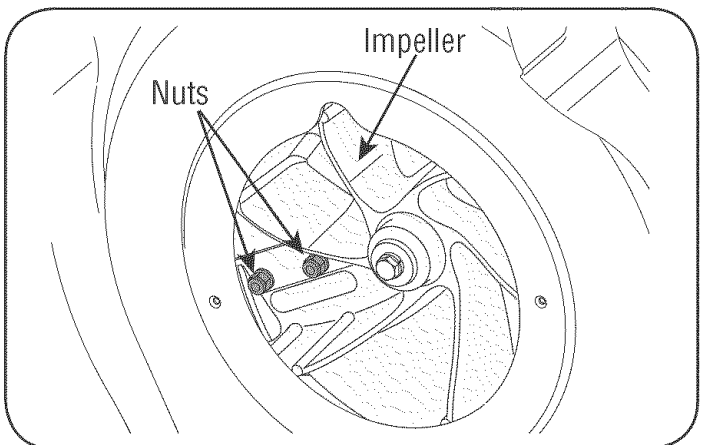

Figure 21
10. The nuts on the flat head cap screws can be reached from underneath using a 1/2-inch socket, universal, and extension. See Figure 21.